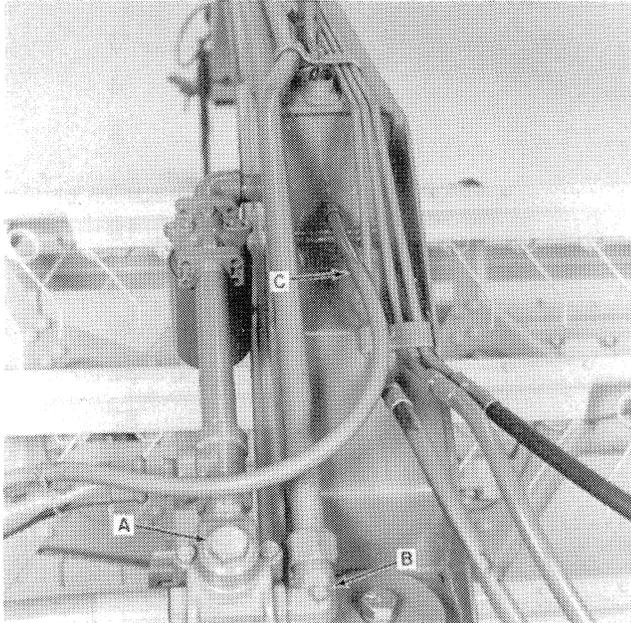

FIGURE 1
3. Remove the relief valve, A, Figure 1, from the housing. Clean the valve and inspect for wear or contamination. Inspect O-rings for possible wear and replace if worn or damaged. Reinstall valve or replace and then test machine.
4. Remove 1/4" NPT plug, B, Figure 1, and install a high pressure gauge. **NOTE: The relief valve is set for 3500 psi (24,133 kPa) and is non-adjustable.**
8. If pump oil volume is normal, check volume at motor case return line. Remove line at C, Figure 1.